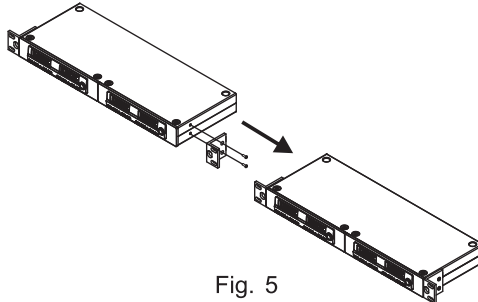

Fig. 5
2. Single 1-rack receiver: Install the optional rack mount kit and fasten with screws on both sides. Fig. 5.